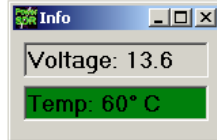

Figure 1
The FLEX-5000 and FLEX-3000 have a temperature sensor on the RF power amplifier (PA) to monitor the operating temperature of the FETs (power transistors). You can access the **Information Form** from PowerSDR 1.x that will monitor the D/C input voltage along with the PA temperature by using the keyboard sequence <CTRL> <SHIFT> I. See the Figure 1 below for an example.